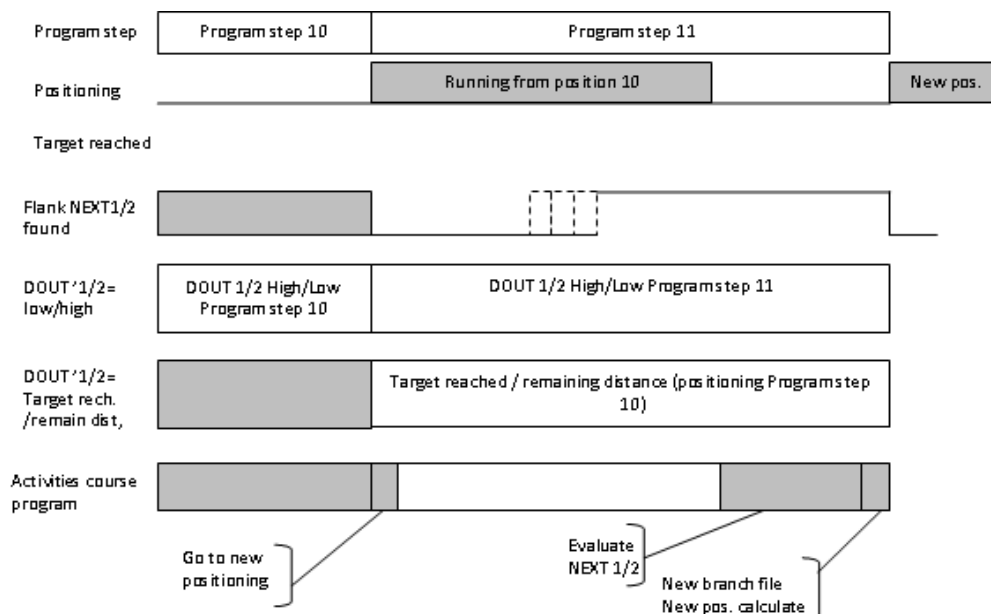

Figure 20: Time diagram position branch
In Figure 20 you can see that in program step 10 positioning is started. With the start of positioning (10) the course program changes to the next continuation line, program step 11.